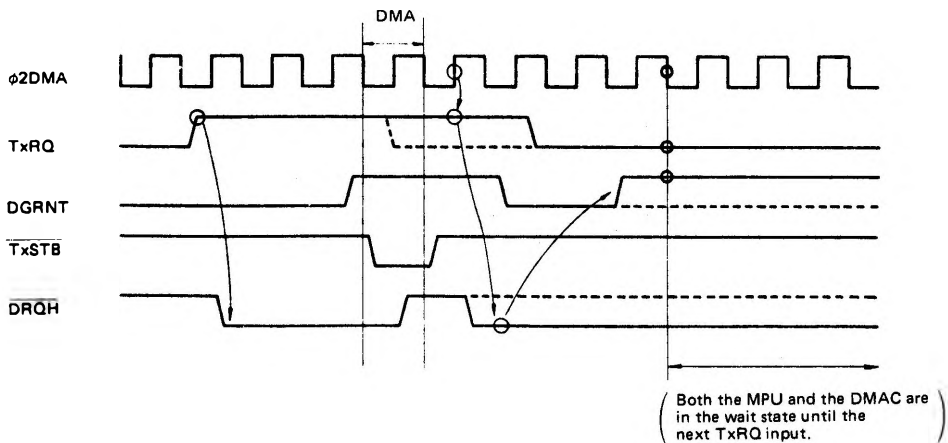

Figure 15 Extraordinary TxRQ Input (2)
- (2) In the case where TxRQ is not reset to "Low" though TxSTB has been driven. In this case, unless TxRQ returns to "Low" by the time ϕ_2 DMA rises after TxSTB has risen to "High", it is considered as a new I/O request, which leads the above-mentioned operation ①,② → . If TxRQ falls to "Low" immediately after that, the same state as (1) happens (Fig. 15).